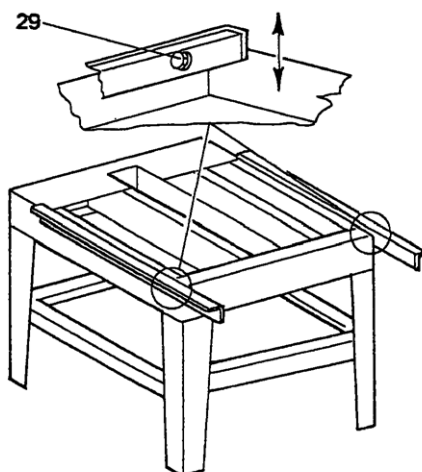

Fig. 12
- 2) With the motor shaft, skim the surfaces of the table holder squares, moving the handle (28) (see fig. 11-a and 11-b) and slide the motor unit along the arm until it also skims the lateral squares. Work on the latter until parallelism is obtained and lock them with the appropriate screws (29) (see fig. 12).